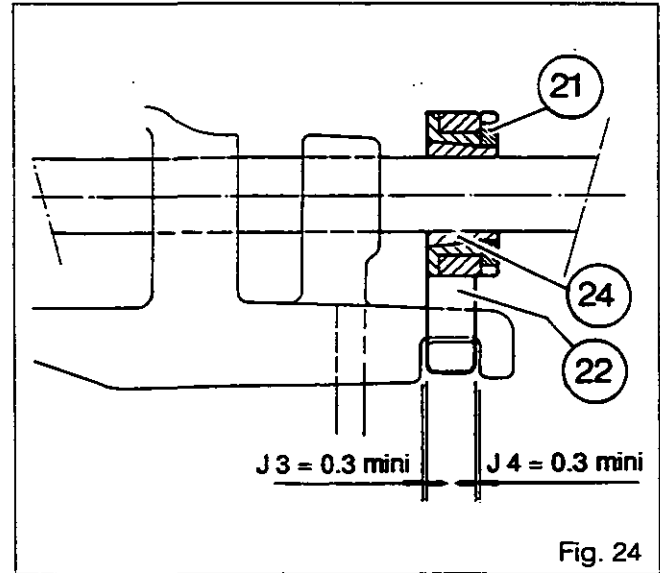

Fig. 24
98. Apply plays **J3** and **J4** (min. = 0.3 mm) equally so that the mechanical latch (**22**) operates unhampered (Figures 24 and 25).